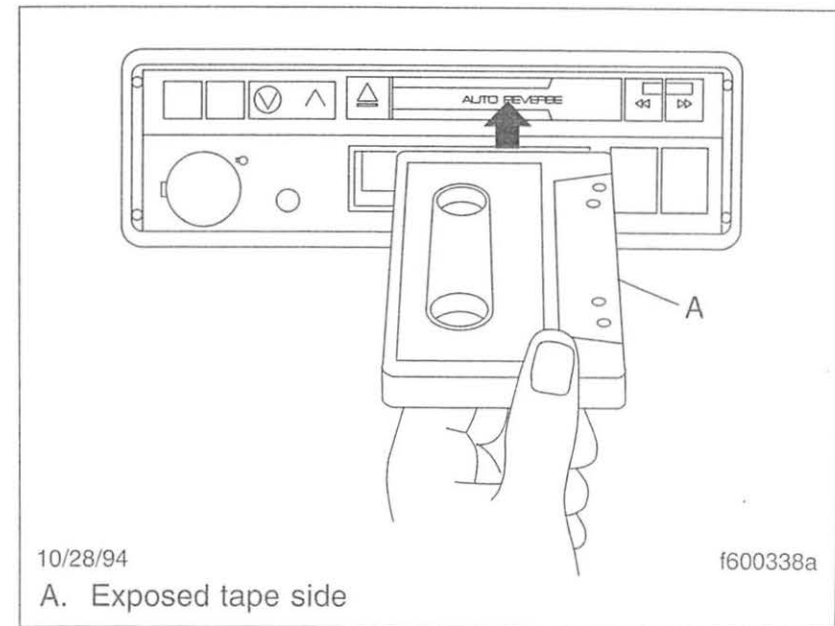

Fig. 2.25, Cassette Player Tape Slot
1. Turn on the radio, and then insert the cassette into the tape slot, with the exposed tape side facing to the right, as shown in **Fig. 2.25**. Push the cassette in until the mechanism catches it. Playback will start immediately, and continue until you eject the cassette.